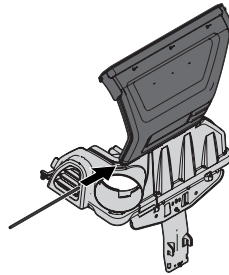

Figure 11
5. Install the bagger top cover by aligning the tabs of the cover and sliding the mounting pin into the channel as shown in Figure 11.